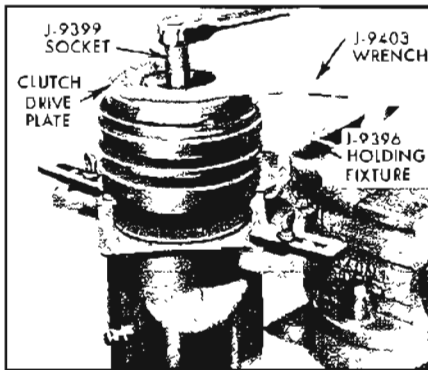

Figure 11-98—Removing Shaft Nut
1. Hold the clutch drive plate hub with J-9403 wrench and use J-9399 special thin wall  $9/16''$  socket to remove shaft nut. See Figure 11-98.